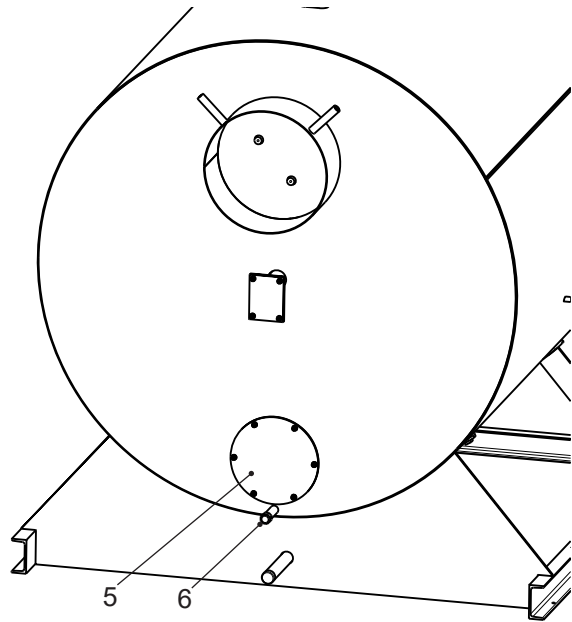

Figure 03
- Thoroughly clean the combustion chamber (2), second compartment (3) and third compartment (4) with a brush or by spraying.
- Remove the cleaning cover (5, Figure 03) behind on the flue gas collector. Remove residues from the collector. Brush the boiler rear wall and the space between the pipe ends clean.
- Empty the flue gas collector at the outlet (6) during wet cleaning.